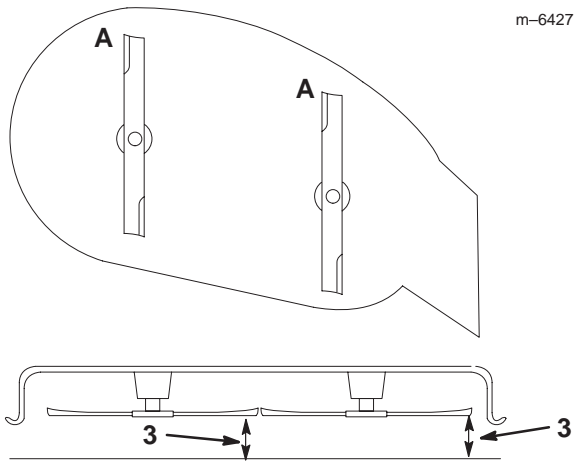

Figure 29
1. Rotate the blades until the ends face forward and backward (Fig. 29). Measure from a level surface to the cutting edge, position A, of the blades (Fig. 29). Note this dimension.